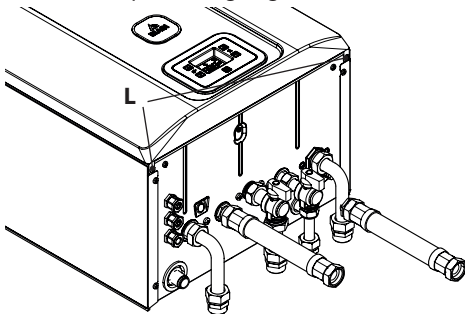
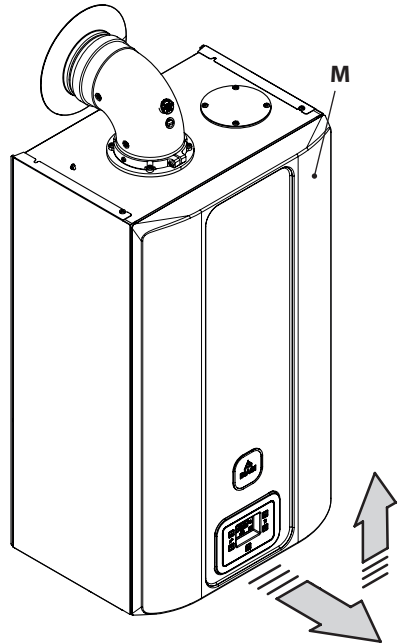

Figure 5.20
Figure 5.21
- Unscrew the screws **L** (Figure 5.20) and remove the front panel **M** by pulling it towards you and then pushing it upwards in order to release it from the top fastenings Figure 5.21.